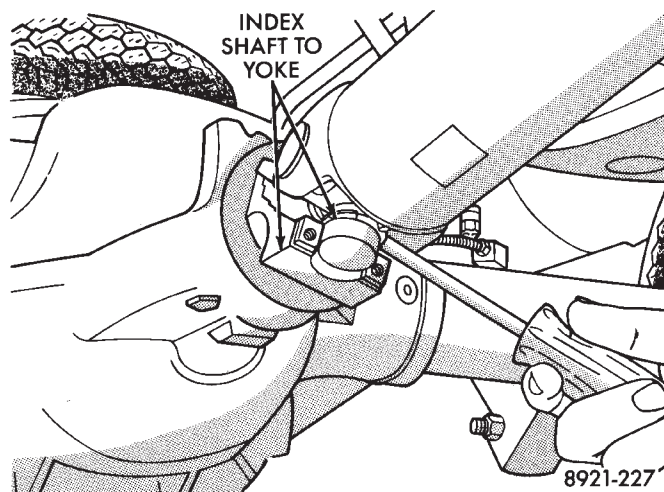

Fig. 51 Mark Propeller Shaft And Yoke For Alignment Reference
- (1) Shift transmission into Park.
- (2) Raise vehicle.
- (3) Remove transmission oil pan, remove gasket, drain oil and reinstall pan.
- (4) If overdrive unit had malfunctioned, or if fluid is contaminated, remove entire transmission. If diagnosis indicated overdrive clutch or governor problems only, remove overdrive unit only.
- (5) Mark propeller shaft universal joint and axle pinion yoke for alignment reference at installation (Fig. 51).